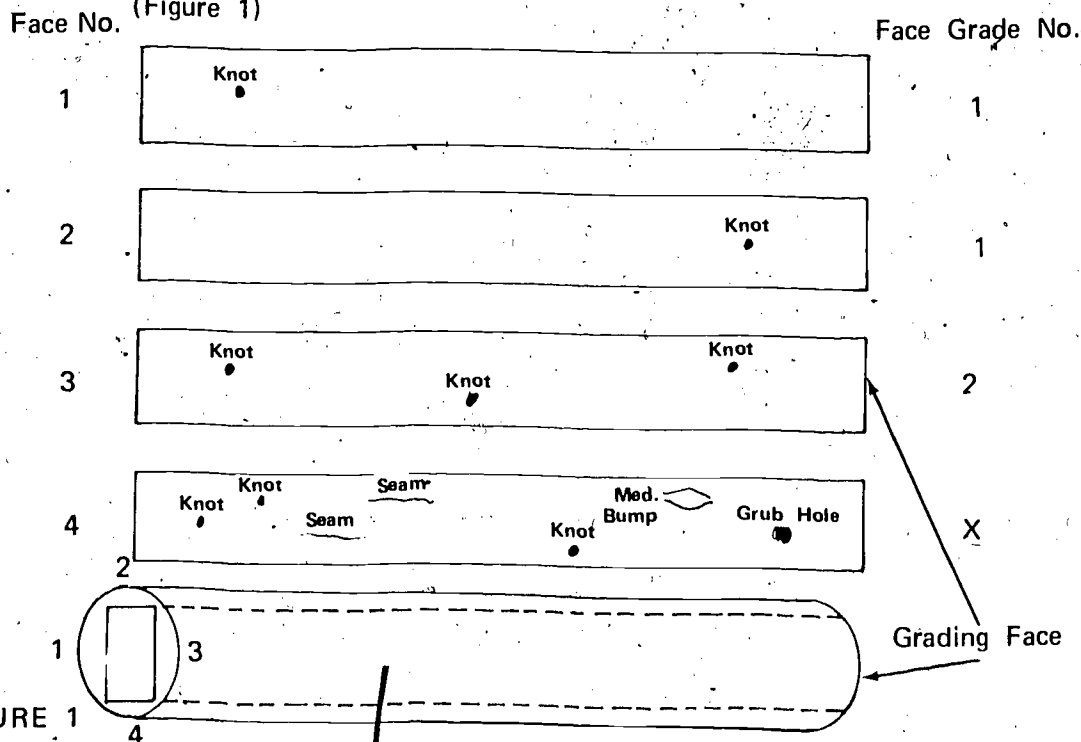

FIGURE 1
- D. On the diagram made, locate and identify the type of defects as shown (Figure 1)